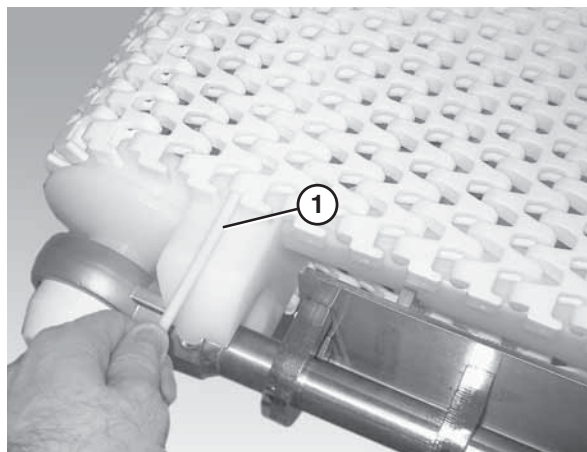

Figure 45
6. Insert the belt rod (**Figure 45, item 1**).